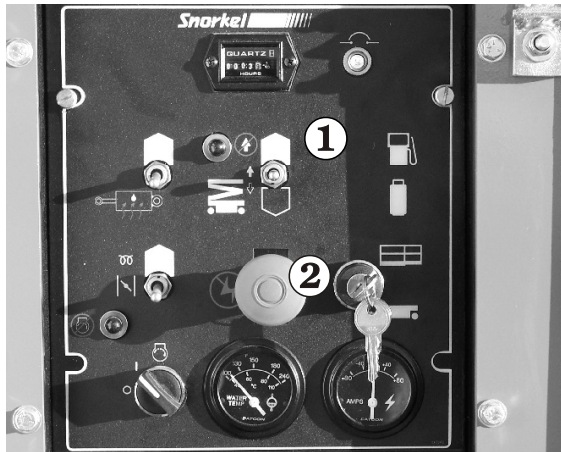

Figure 7.26 - Ground Controls
Check the Platform Lift/Lower switch ① (see Figure 7.26) to see that it is functioning properly by holding the switch up to rise platform and pushing the switch down to lower the platform.
Pay particular attention to the Emergency Stop switch ② (see Figure 7.26) to see that it turns the RT engine off when struck.